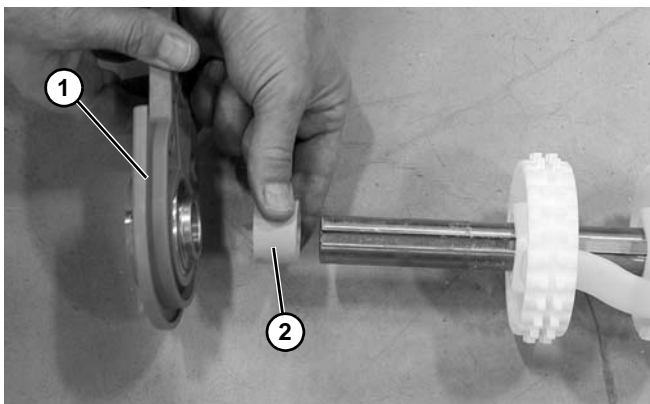

Figure 60
8. Slide the headplate with bearing (**Figure 60, item 1**) and spacer (**Figure 60, item 1**) off the drive spindle.